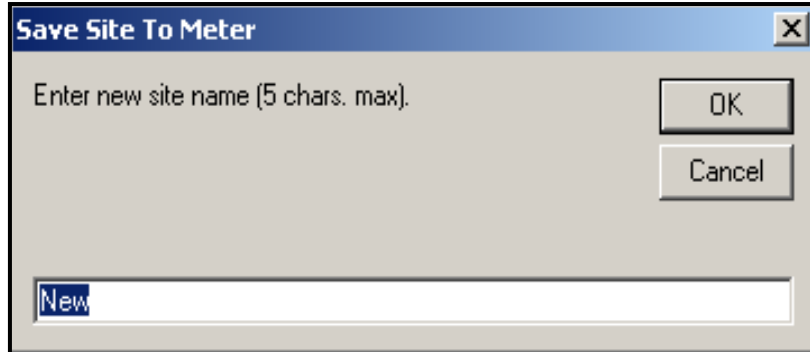

Figure 53: Site Name Entry Window
2. A window similar to *Figure 53* below opens. Enter the desired name, and click [OK].